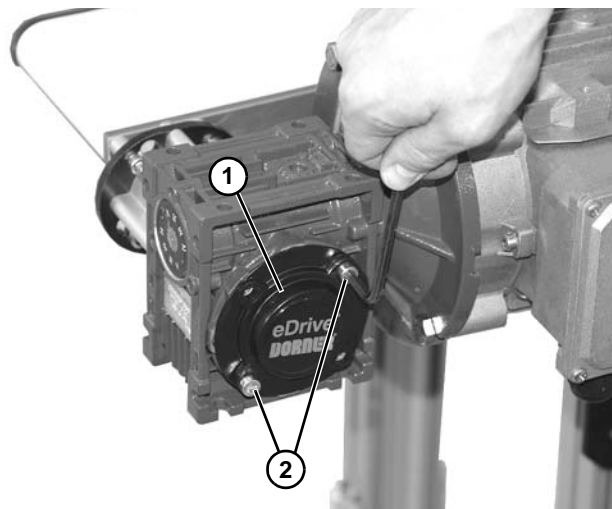

Figure 10
12. Install cover (Figure 10, item 1) and two M6x12 socket head screws (Figure 10, item 2). Tighten screws to 60 in-lb (7 Nm).